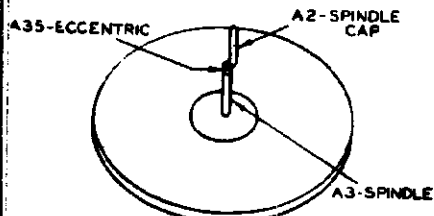

FIG. 1
- (1) Turn the Spindle Cap (A-2) until it is as completely out of line with the Spindle (A-3) as possible. (See Figure 1)
- (2) If ten-inch records are to be played, rotate Record Support (A-4) to extreme left, and for twelve-inch record operation, rotate Record Support (A-4) to extreme right, as indicated